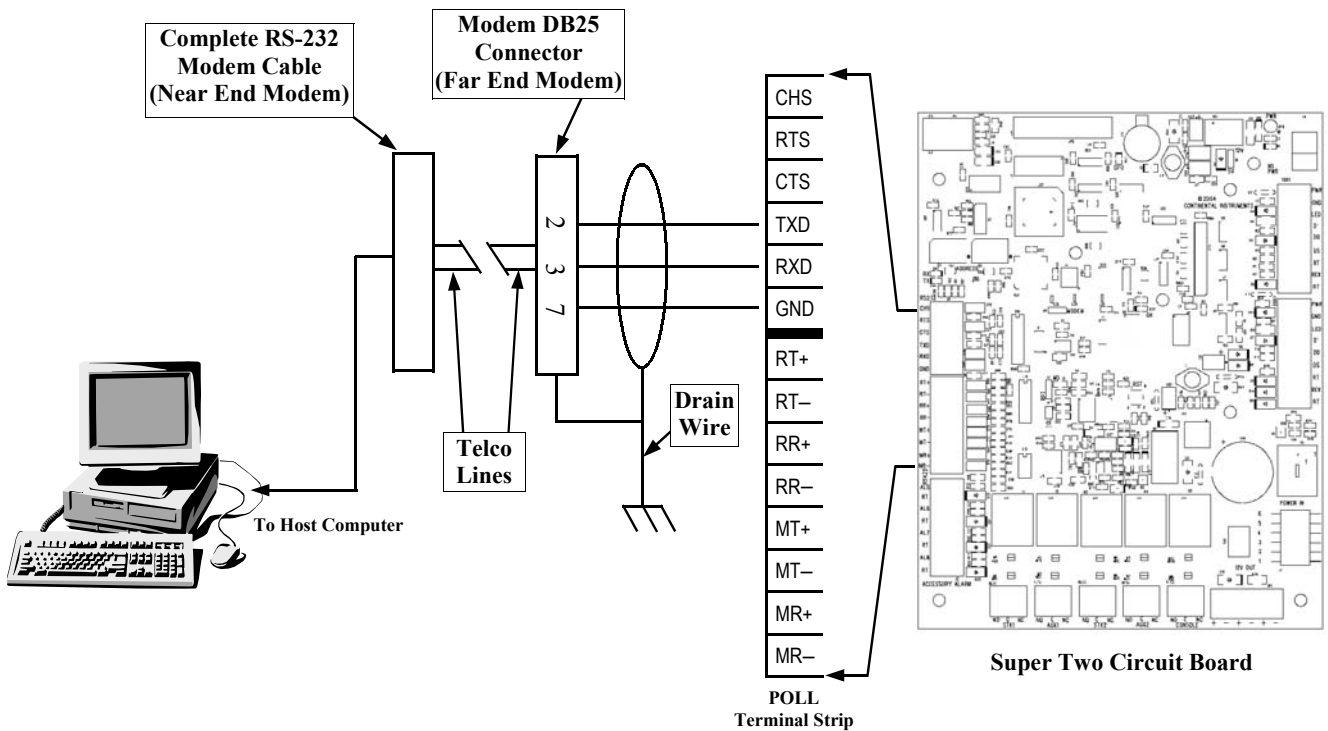

Figure 18 - Super Two-to-Modem-to-Computer Connection
Figure 18 shows a Super Two-to-host computer connection through a modem.
- 1) Connect the Transmit pin of the RS-232 device to COMM terminal strip pin number 5 (labeled RxD) (See Figure 18).